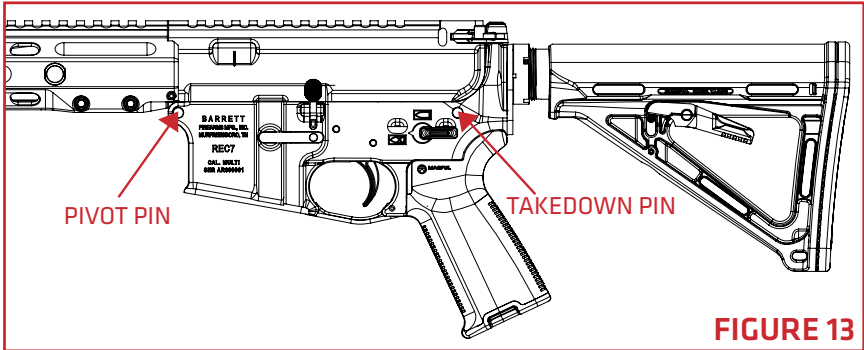

FIGURE 13
1. Ensure rifle is unloaded and clear by following the steps in the previous section. With the safety on and bolt closed, push the takedown pin (rear most pin) until it clears its detent and stops (FIGURE 13). Takedown pins are captured and cannot be removed. Push the pivot pin (forward most pin) until it clears its detent and stops. Separate the upper and lower receivers.